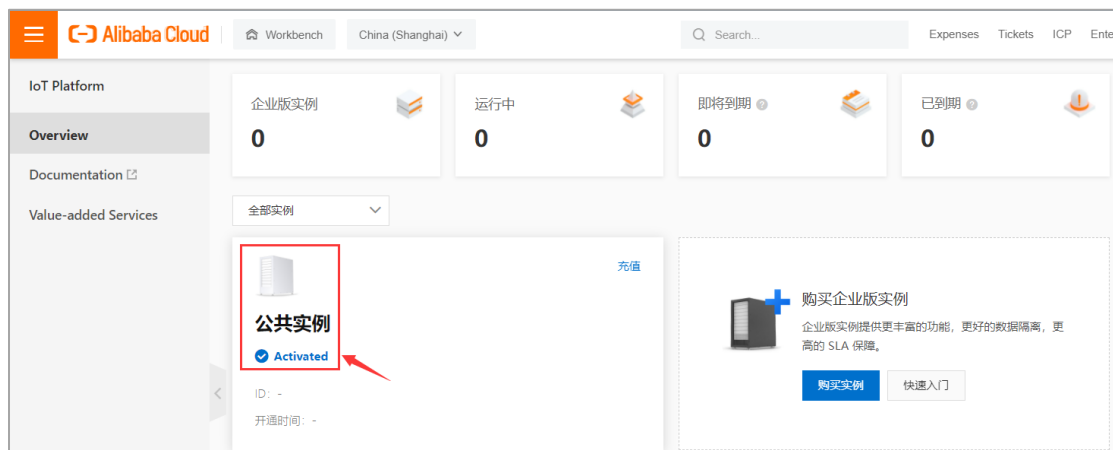

Fig. 6-23 Qingcheng Alibaba Cloud
- (1) Choose **Public Examples**. (See Figure 6-23).